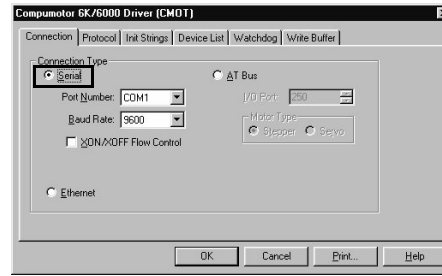

Figure 2-27: CMOT Driver Serial Connection
6. On the Connection tab, select the Serial connection, as shown in Figure 2-27 on page 29.